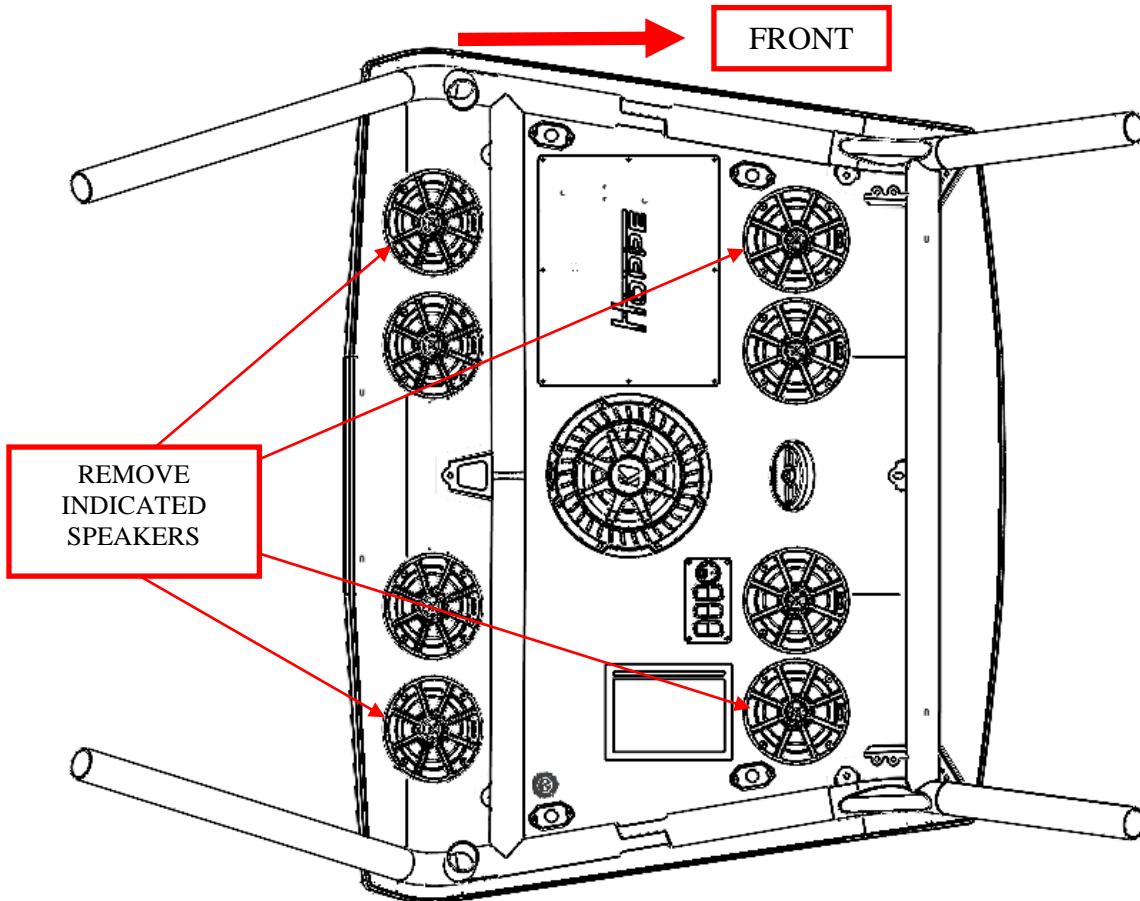

Figure 4: Install the top on the cage (view looking up from inside).
1. Using a few assistants, set the *Audio Shade* off-road top on the cage. The top is contoured such that the cage fits inside the grooves on the top. **Note: The top weighs up to 100 lbs. depending on your configuration. Since you will have to lift and reach, it is helpful to have 4 people for this step.** See Figure 4.
2. Remove the two front outer and two rear outer 6.5" speakers so you can reach your hand inside the top. The speakers are held in place with 4-Philips screws each. Once the screws are removed, lower the speaker by hand to reach behind and disconnect the speaker wires. See Figure 4.